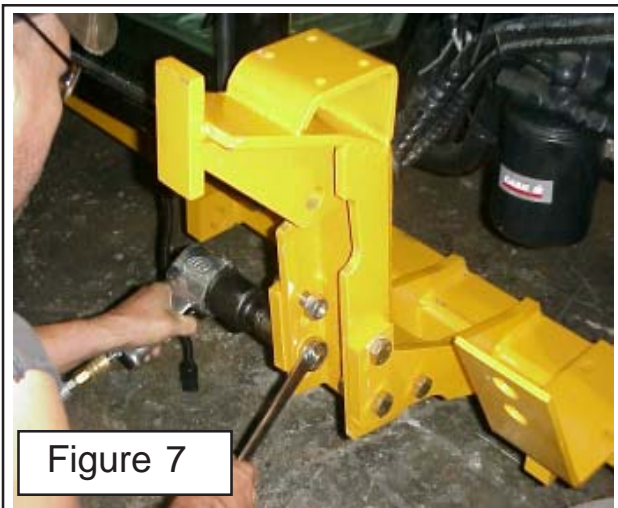

Figure 7
10. Install Cylinder Support Weldment. The cylinder support weldment (P/N 02980151) bolts to the frame rail (See Figure 7). Tighten the mounting bolts once installed.